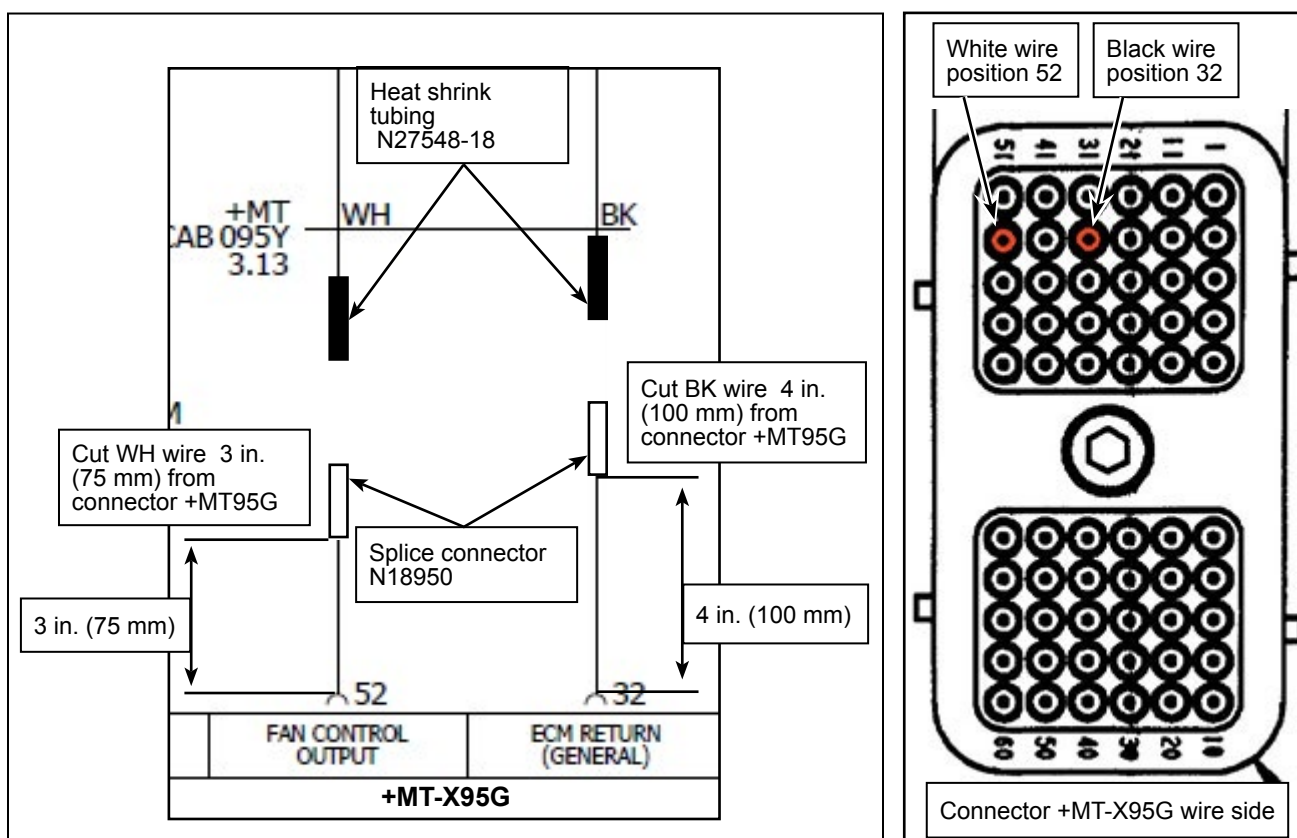

Figure 6 - Wires to be Cut and Insulated on the +MT-X95G Connector
- 1.10. On the CAB095Y cable cut the WH wire (pos. 52) 3 in. (75 mm) and the BK wire 4 in. (100 mm) from the +MT-X95G connector. See Figure 6.
- 1.11. On the +MT-X95G connector strip 1/4 in. (6 mm) from the end of the WH and BK wires and crimp an N18950 splice connector on both wires. See Figure 6.
- 1.12. Cut two lengths of N27548-18 heat shrink tubing and install a length on both wire ends on the harness side to insulate them properly. See Figures 6.